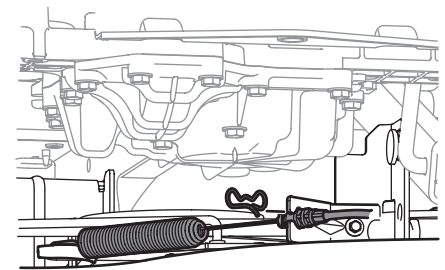

Figure 4-11
7. Remove the bow pin that secures the PTO cable to the bracket on the deck, slide the PTO cable out of the bracket and unhook the spring from the idler bracket. See Figure 4-11.